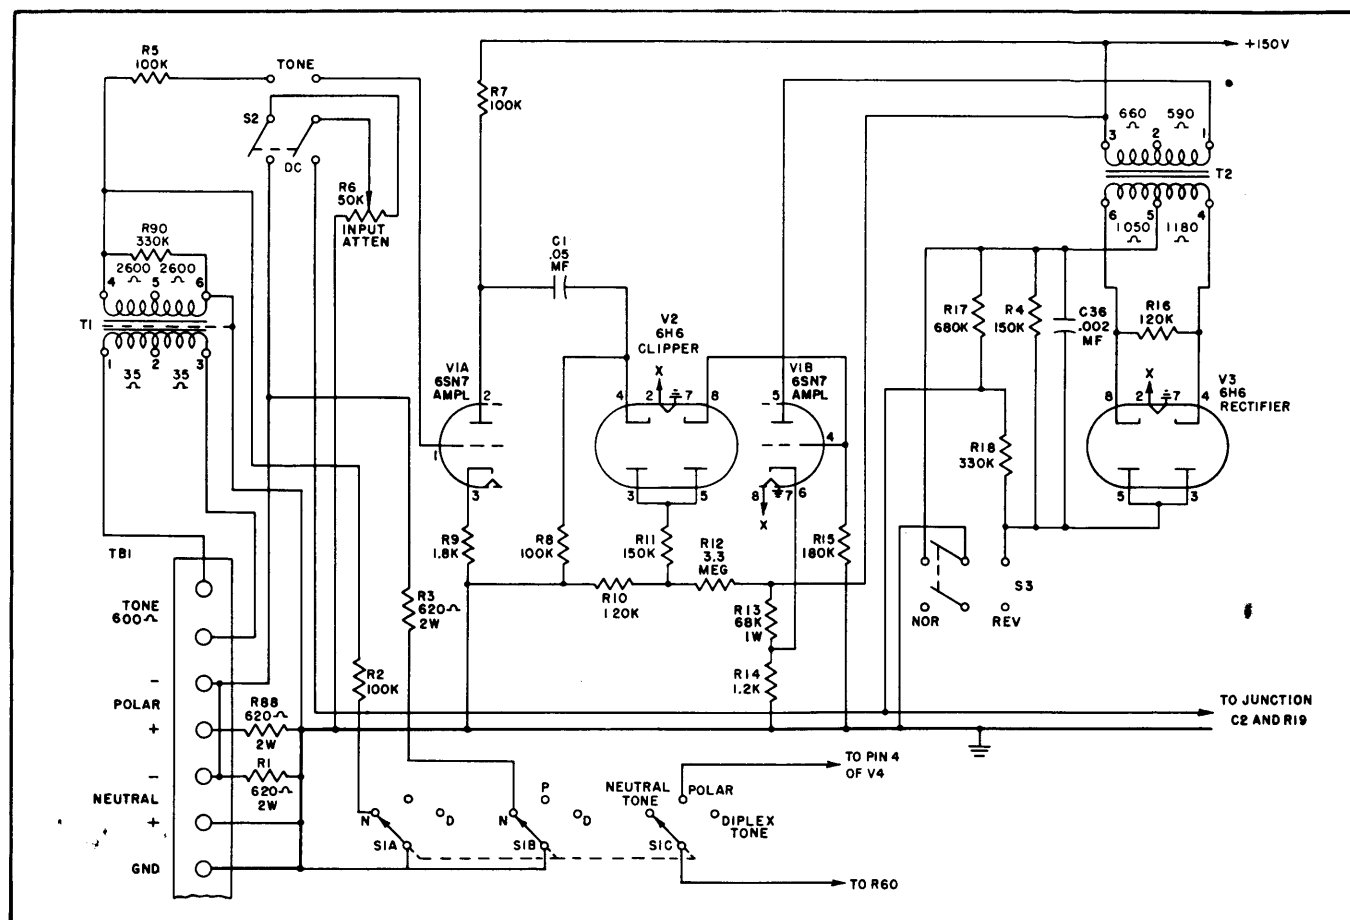

Figure 2-3. Input and Amplifier Circuits
a. INPUT AND AMPLIFIER CIRCUITS — The input and amplifier circuits are illustrated in Figure 2-3. Tubes V1, V2, and V3 are utilized in the amplifier circuit to secure a dc voltage to properly operate the following trigger circuit from tone inputs of -20 dbm to 0 dbm. The dc input circuits provide suitable impedances to the dc input lines.
(1) TONE INPUT — Keyed tone input to the Repeater is applied to the primary of the input transformer T1 which has a nominal impedance of 600 ohms. Resistors R2, R90, and R5 form a fixed attenuating network at the secondary of T1 so that amplifier tube V1A is not overloaded when 0 db input is applied to the Repeater and Input Attenuator R6 is set for zero attenuation. Switch S2 must be set to TONE during tone input operation so that the output from T1 is connected through S2 and Input Attenuator R6 to the grid of amplifier tube V1A. For Duplex operation switch S1 is thrown to DIPLEX thus open-